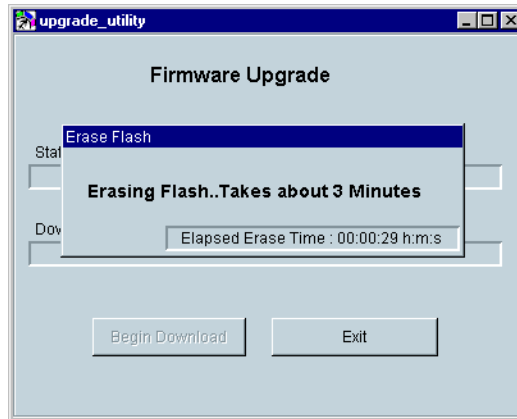

Figure 5-3. Erasing Flash
3. Open the selected code file, and the window shown in Figure 5-3 is displayed.